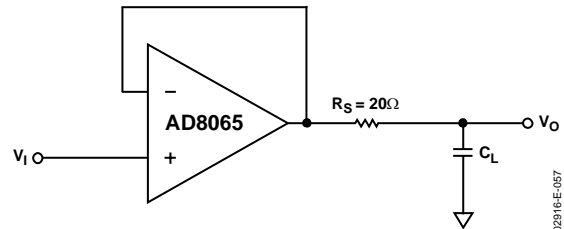

Figure 57. Output Isolation Resistor
- As shown in Figure 57, put a small value resistor ( $R_S$ ) in series with the output, to isolate the load capacitor from the amp's output stage. A good value to choose is  $20\ \Omega$  (see Figure 10).